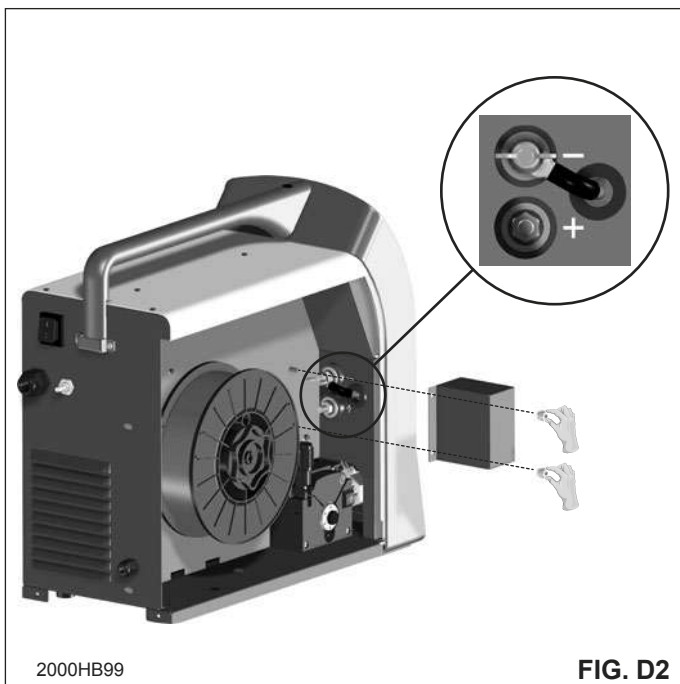

FIG. D2
- 3) Open the moving cover, remove the protection box for changing polarity (see Fig. D2) and move the change polarity cable, connecting it to the negative pole (-).